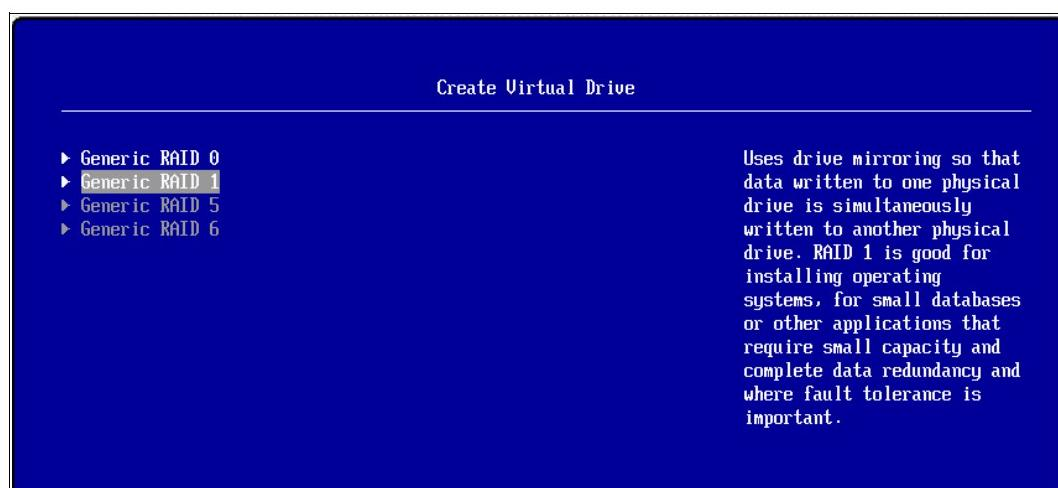

Figure 5-25 Create Virtual Drive panel, Generic RAID 1 selected
10. From the Create Virtual Drive panel, select the RAID level that you want for your array. For this example, we selected RAID 1 as shown in Figure 5-25.